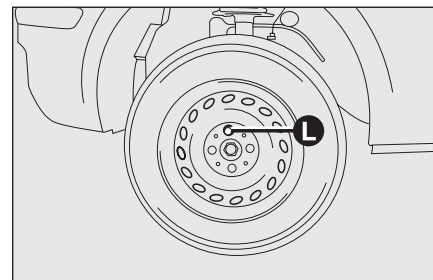

fig. 7
- ☐ remove the wheel cap (if any) after unscrewing the three relevant bolts then, unscrew the fourth bolt **L-fig. 7** and remove the wheel;